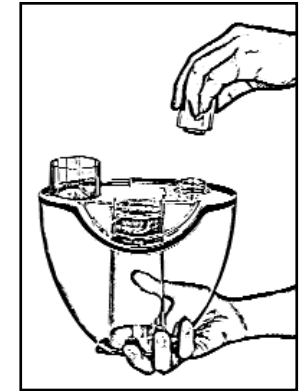

Fig.3
2. Remove the tank cap as well as the Mist Nozzle from the water tank by turning it counter-clockwise (fig. 3) Fill the water tank with purified water. After filling the water tank with water screw back in the tank cap firmly.